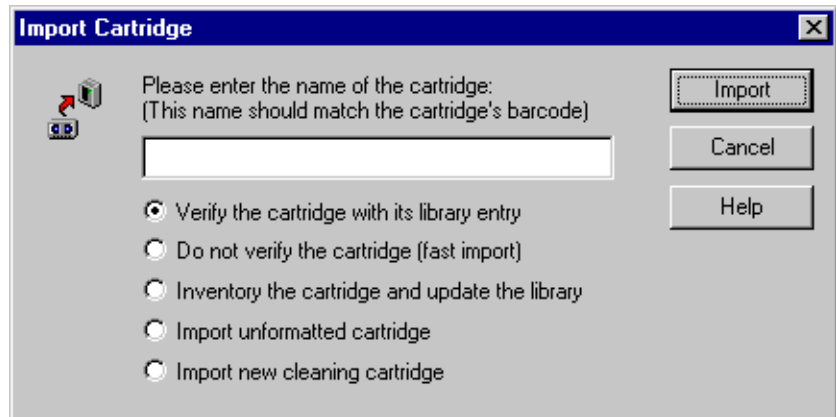

Figure 63. Import Cartridge dialog box
2. Choose **Import** either from the **File** menu or from the shortcut menu with a right-click. The Import Cartridge dialog box appears (see Figure 63). If you have two or more PLS20 systems connected simultaneously, you must enter a drive number when prompted.